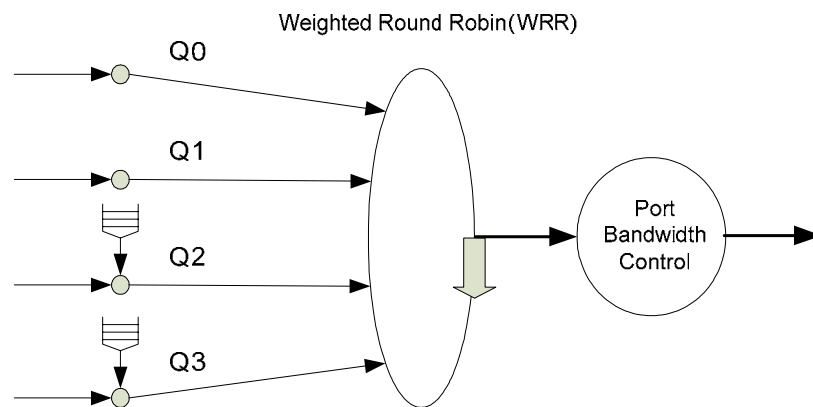

Figure 20. Packet-Scheduling Diagram
- Type I leaky bucket, which specifies the average rate of one queue (see Figure 20; only Q2 and Q3 have leaky bucket, Q0 and Q1 do not). The queue rate can be configured from 0kbps to the line rate in steps of 64kbs.
In addition, the RTL8306E can select one of the two sets of packet-scheduling configurations according to the packet-scheduling mode. Figure 20 shows the RTL8306E packet-scheduling diagram.